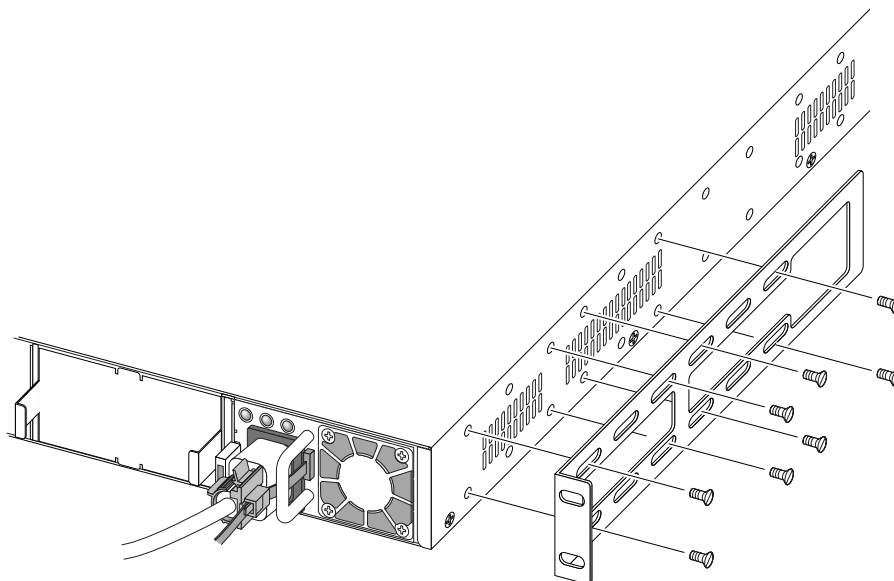

Figure 206: Attaching the Mounting Bracket to the EPS-C2 Chassis
- a. Place a mounting bracket over the mounting holes on one side of the EPS-C2 (see Figure 206).